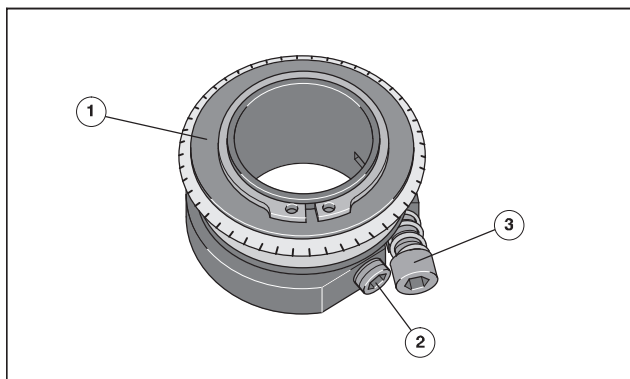

Fig. 3 Perforating disc
1. Sliding the perforating disc (Fig. 3/1) onto the perforating shaft.
2. Fix the perforating disc on the perforating shaft using the stop screw (Fig. 3/2).
3. The stop screw (Allen screw, fig. 3/2) is screwed into the **lower groove** of the perforating shaft; in the **disengaging position**. For **adjusting and perforating**, the stop screw must be loosened, the perforating disc is turned on the perforating shaft and fixed in the **upper groove** with the stop screw.
After engaging the perforating shaft the perforating disc is adjusted to the impression cylinder by means of the **adjusting screw** (Fig. 3/3) using the Allan key supplied together with the press. - Direction of rotation: turn clockwise to bring the perforating disc into contact with the impression cylinder.